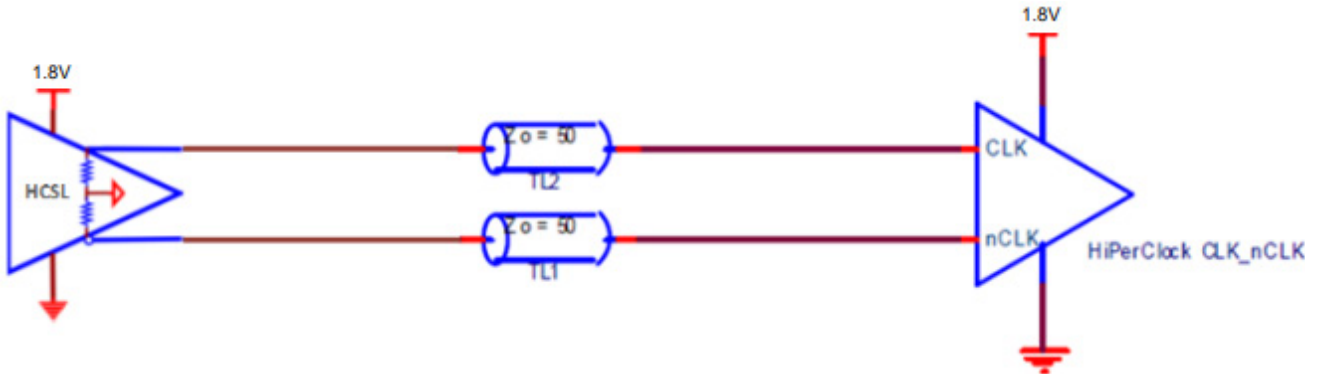

Figure 1. HCSL Transmitter Internal Termination – Simple Topology
- Figure 1. HCSL Transmitter Internal Termination – Simple Topology2
The FC3W family of devices support transmitter internal termination (see Figure 1). Integrating the terminations inside the transmitter simplifies the BOM and the board design.